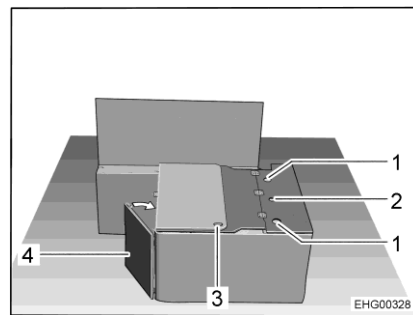

Fig. 34 During conversion
- Swing the bench seat panel (Fig. 34,4) towards the side wall.
- Route the safety belt with the seatbelt lock through the orifice (Fig. 34,3) in the bench seat cover.
- Insert the backrest of the attachable seat into the side holders (Fig. 34,1) and tighten the star knob screw on the centre holder (Fig. 34,2) by hand.